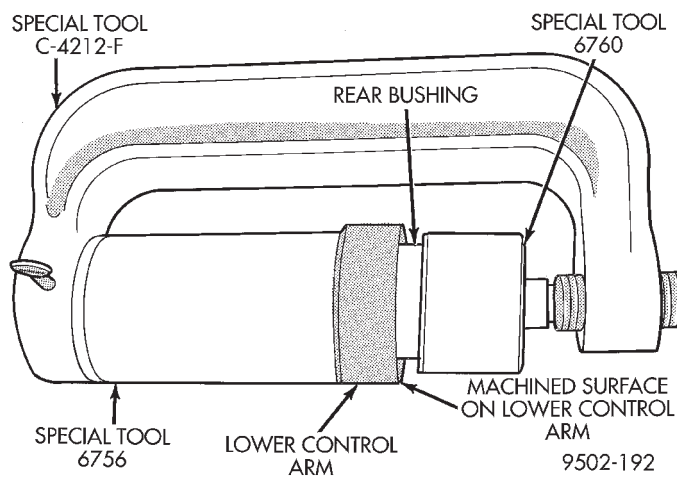

Fig. 91 Installing Rear Bushing In Lower Control Arm
(2) Mount Bushing Installer, Special Tool 6760 on screw portion of Remover/Installer Special Tool C-4212-F (Fig. 91).
(3) Install Special Tools assembled for installation of rear isolator bushing into lower control arm on the lower control arm. Be sure Special Tool 6756 is square on lower control arm and Special Tool 6760 is positioned correctly on isolator bushing (Fig. 91).
(4) Tighten screw on Remover/Installer Special Tool C-4212-F pressing rear bushing into lower control arm. Continue pressing rear bushing into lower control arm until bushing is sitting flush on the machined surface (Fig. 91) of the lower control arm. This will correctly position rear bushing in lower control arm.
(5) Install lower control arm assembly back on vehicle. See Lower Control Arm Installation in this section of the service manual for the required installation procedure.